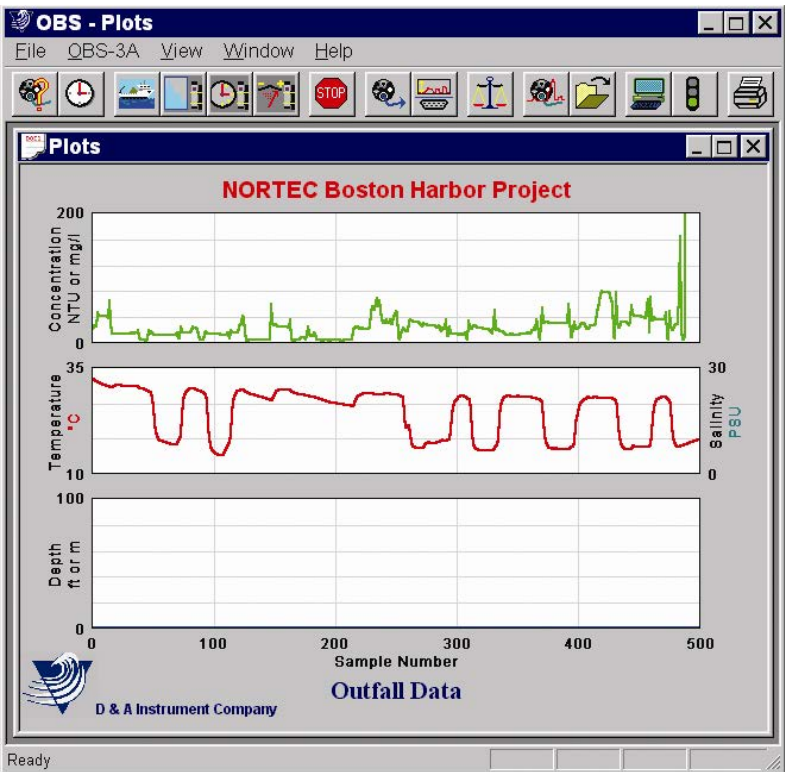

FIGURE 3.5-1. Test Data Sample
2. Wave your hand in front of the OBS sensor; the turbidity signal on the top plot of FIGURE 3.5-1 will fluctuate and data will scroll.
3. Blow on the temperature sensor to observe an increase in temperature (red trace on the middle plot of FIGURE 3.5-1).
4. Blow into the pressure sensor and a small elevation in the pressure signal will occur (bottom plot of FIGURE 3.5-1).